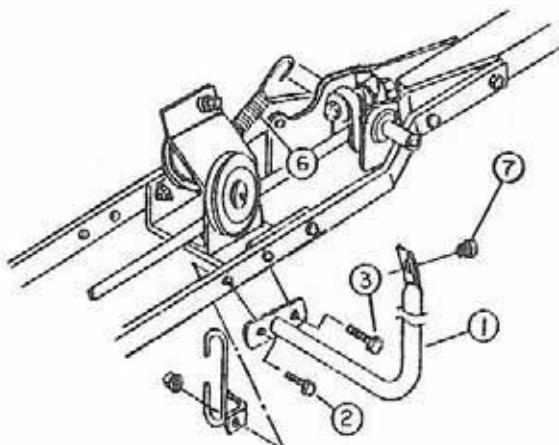

FIGURE 3
- d) Install the rotation support (fig. 3, item 1) on left hand side of subframe by using the existing bolts $3/8 \times 1 1/4"$ (item 2 & 3), making sure the belt guide is 90° to subframe flatbar. Secure bolts with nuts. Insert plastic grommet (item 7) in rotation support (item 1).